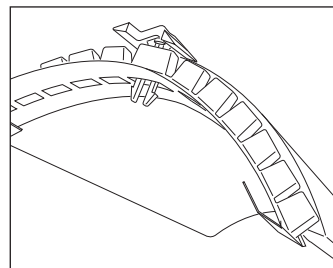

Fig. 11 – Fold in union tabs to suit capping
- 10 Select a hip union, union clamp and 75mm x 4.8mm screw. Fit a union clamp into the central slot in the hip union and offer up the assembly into the open end of the hip tile so that it is trapped between the clamp and the union flange. Where the ends on the union overlap the edges of the hip tile, cut off or fold inward the excess length along the crease lines at either end (Fig. 11).